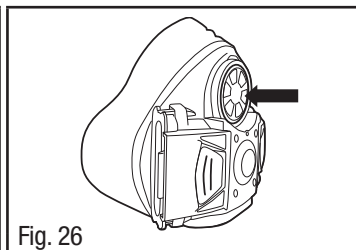

Fig. 26
3. Push the speaking diaphragm inward to remove (Fig. 26).